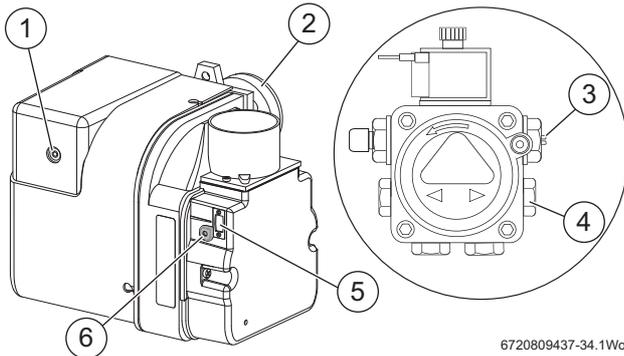

Fig. 49
- ▶ Check for after-spurting from the nozzle, indicated by oil saturation on the combustion head (G figure 49).
- ▶ Remove the burner, combustion head [2] figure 49 and electrodes, hold the burner vertical to unscrew the nozzle and fill the nozzle holder with kerosene.
- ▶ Refit nozzle, electrodes, combustion head [2] figure 49 and the burner.
- ▶ Check the CO₂ levels and adjust the air shutter [6] figure 49 setting according to the table opposite.
i If the flue gas temperature is too high and the baffles are correctly fitted, then reduce the oil pump pressure [3] figure 49, 5-10 p.s.i. to compensate for nozzle variations. If the pump pressure has been changed, the CO₂ levels must be rechecked and air shutter adjusted if necessary.
- ▶ Refit the blanking plug [4] figure 49.
- ▶ Recheck the CO₂ levels and if required, adjust the air shutter setting [6] figure 49 to obtain the correct CO₂ level.